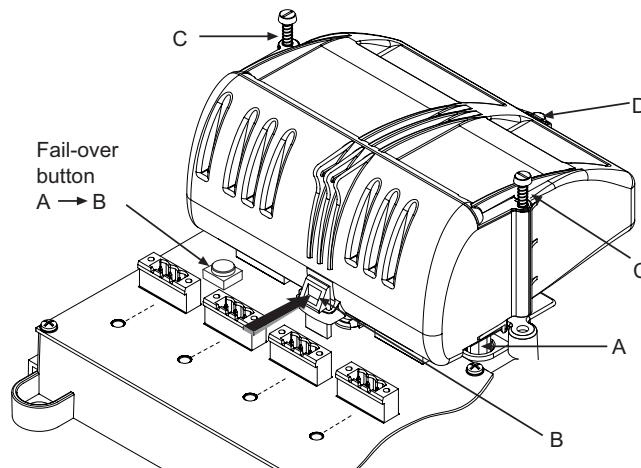

Figure 5.1 - Fieldbus Barrier module – fitting & removal
5.2.1.1 Removing a Fieldbus Barrier module (refer to Figure 5.1)
- Slowly pull the 9377-FB-R Fieldbus Barrier module away from its connections on the carrier until the safety retaining clip (B) stops further removal.
5.2.1.2 Fitting a Fieldbus Barrier module (refer to Figure 5.1)